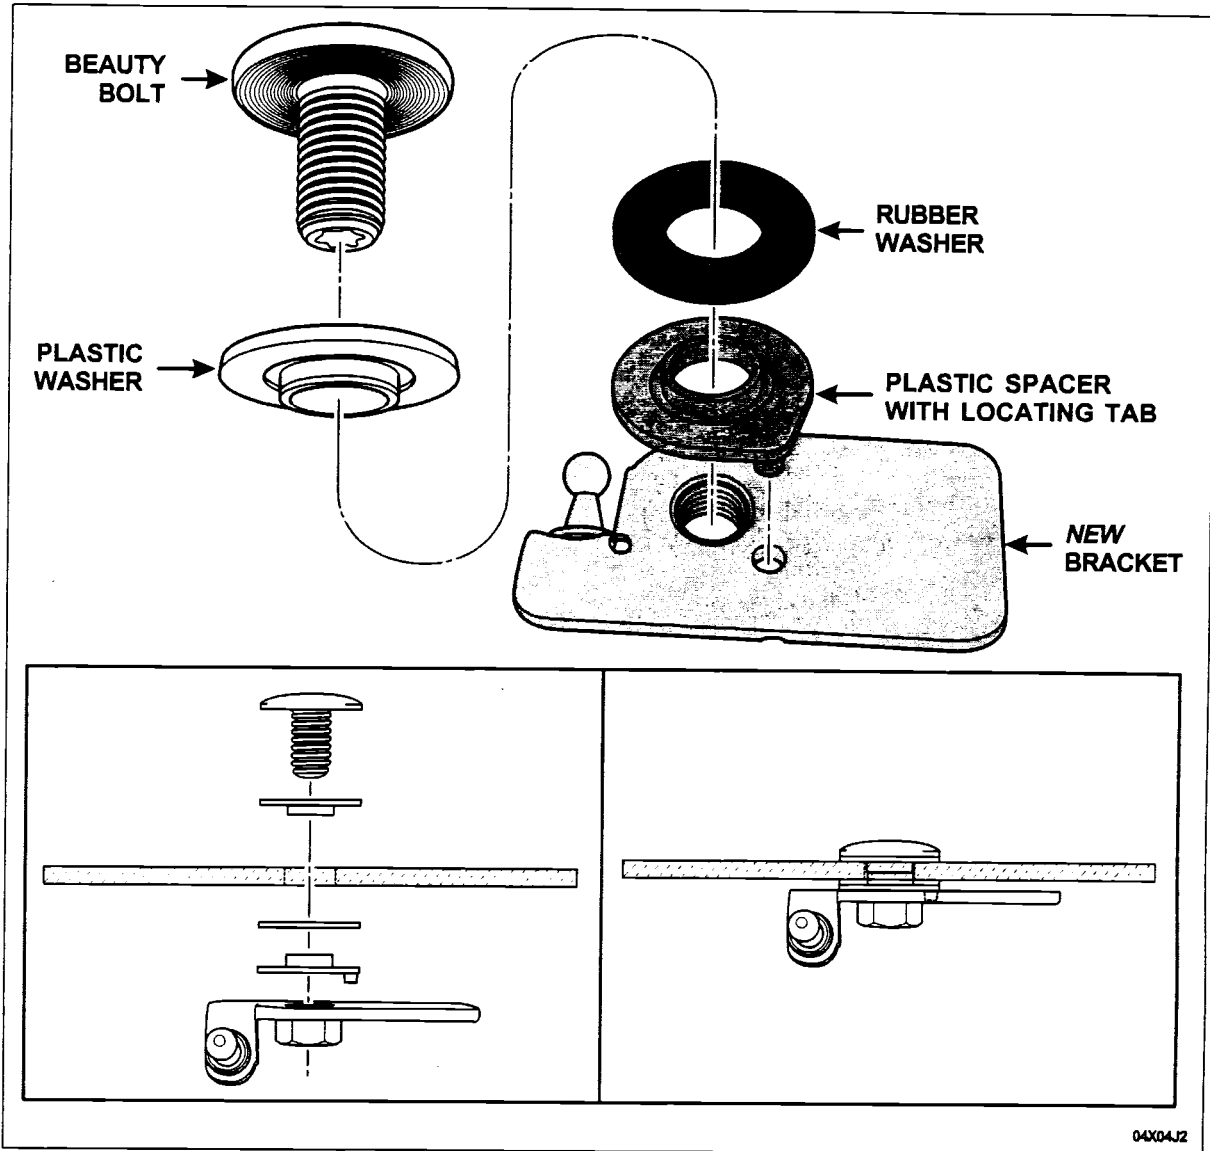

FIGURE 10
8. Install the plastic spacer (with locating tab) and rubber washer onto the *new* brackets as shown in Figure 10. Also, place a plastic washer onto the beauty bolt with the collar toward the glass.